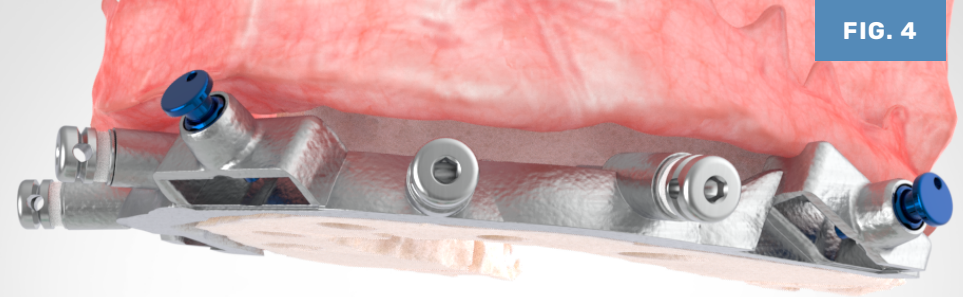

FIG. 4
1. Extract teeth and reduce the bone to the top coronal aspect of the Fixation Base. Ensure a smooth, horizontal plane of bone following the upper plane of the Fixation Base. **(FIG. 4)** This must be a smooth transition or the Carrier Guide will not seat.